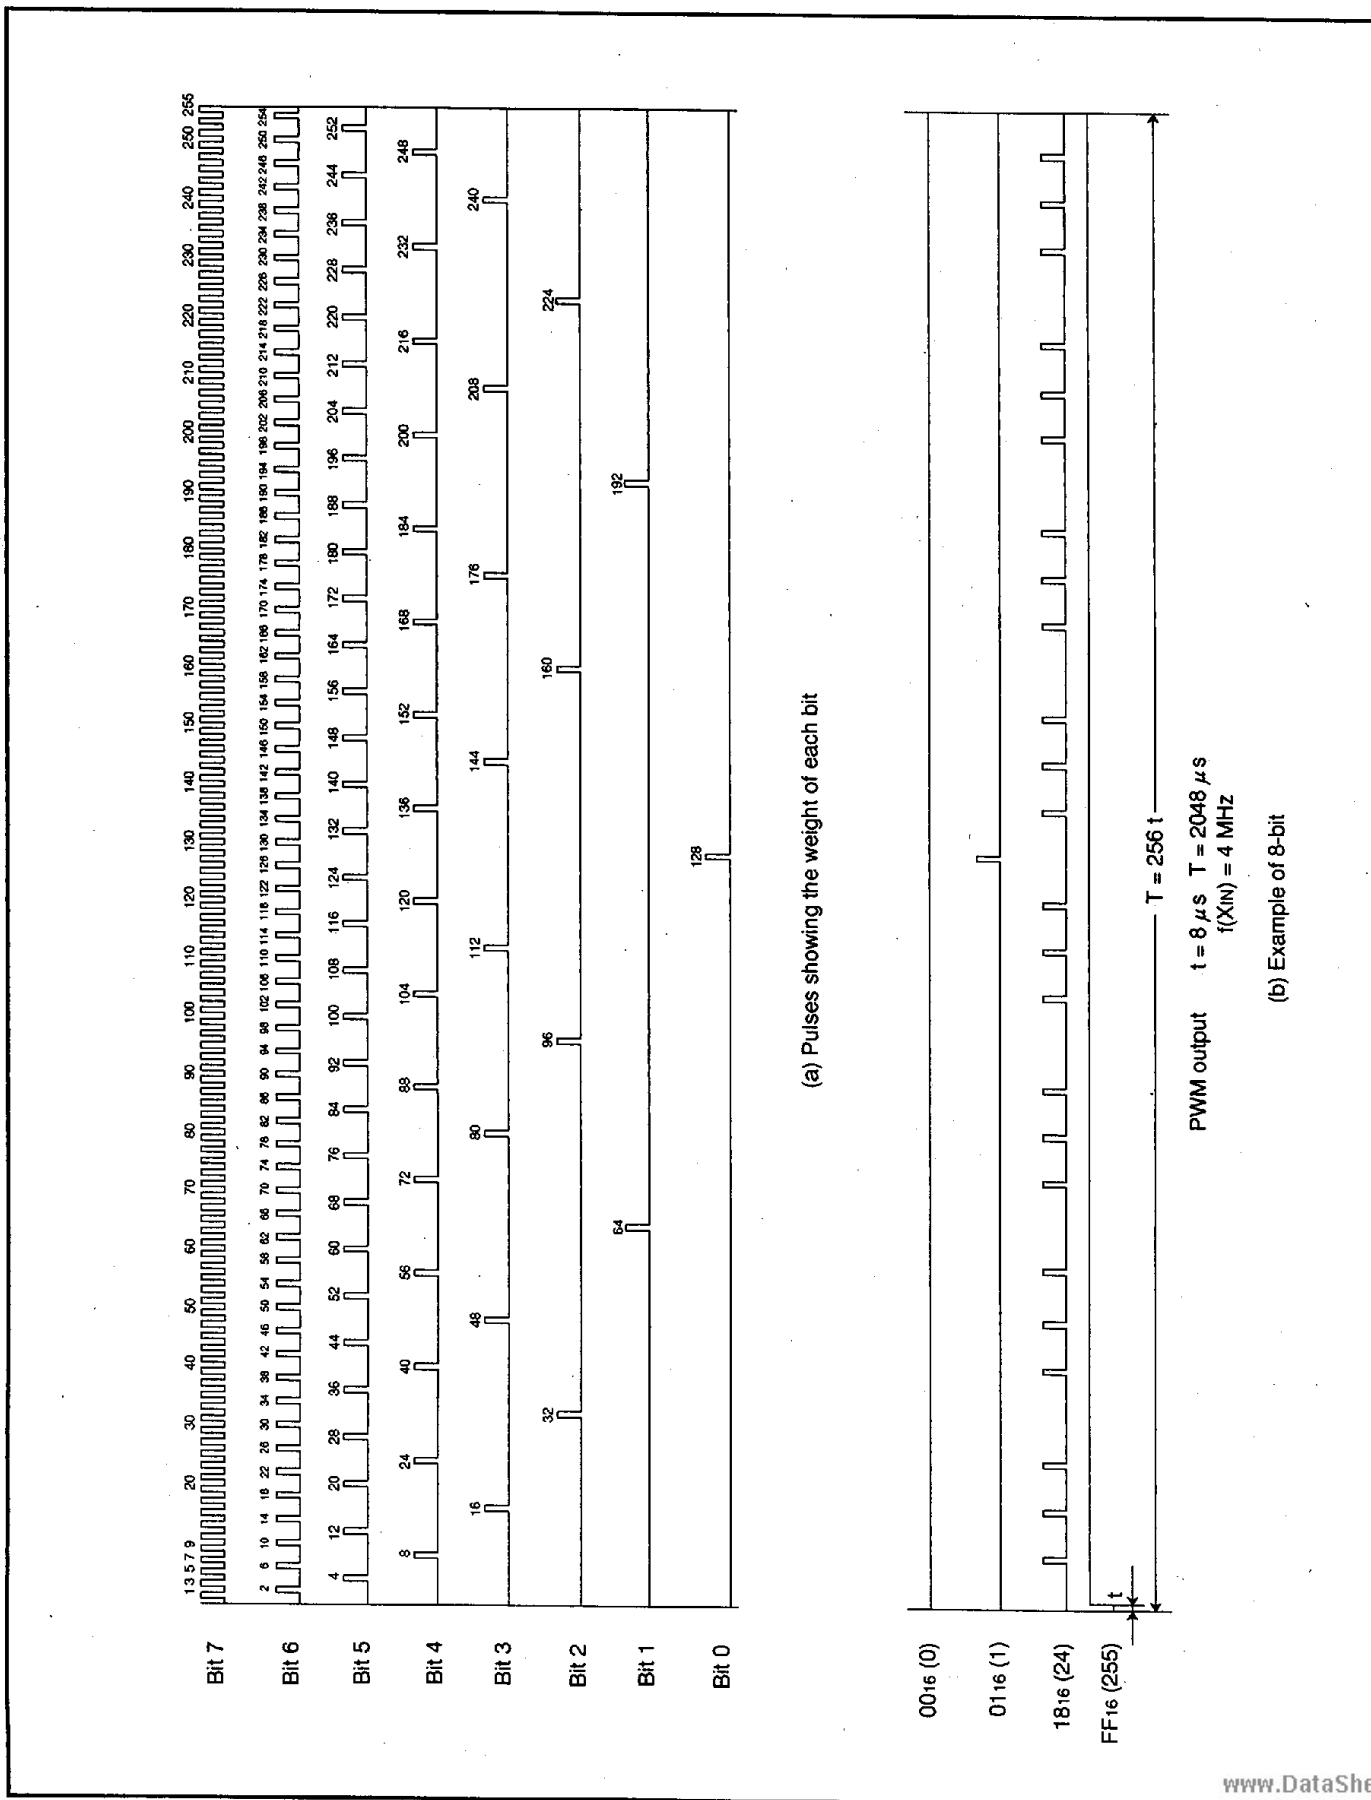

Fig. 22. 8-bit PWM timing
Figure 22 shows the 8-bit PWM timing. One cycle (T) is composed of 256 ( $2^8$ ) segments. The 8 kinds of pulses relative to the weight of each bit (bits 0 to 7) are output inside the circuit during 1 cycle. Refer to Figure 22 (a). The 8-bit PWM outputs waveform which is the logical sum (OR) of pulses corresponding to the contents of bits 0 to 7 of the 8-bit PWM register. Several examples are shown in Figure 22 (b). 256 kinds of output ("H" level area: 0/256 to 255/256) are selected by changing the contents of the PWM register. A length of